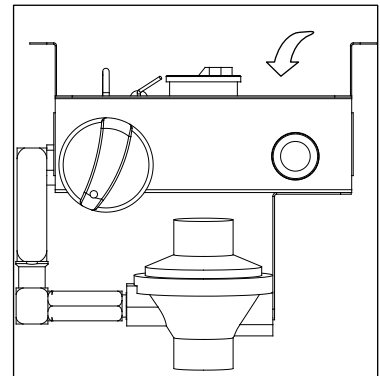

Figure 5
8. Push in and turn the control knob to the "HIGH," then release control knob. If you want a lower temperature, push in the control knob and turn counterclockwise to the "Lo" (Figure 5).